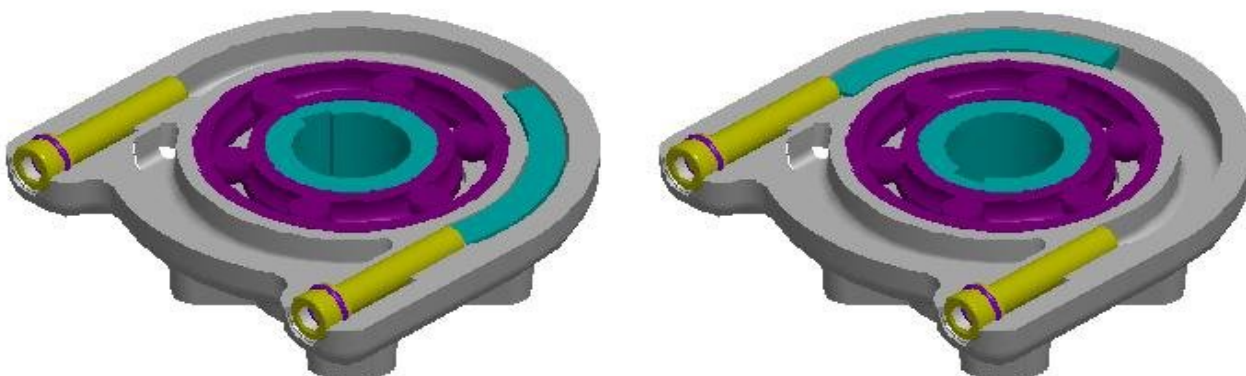
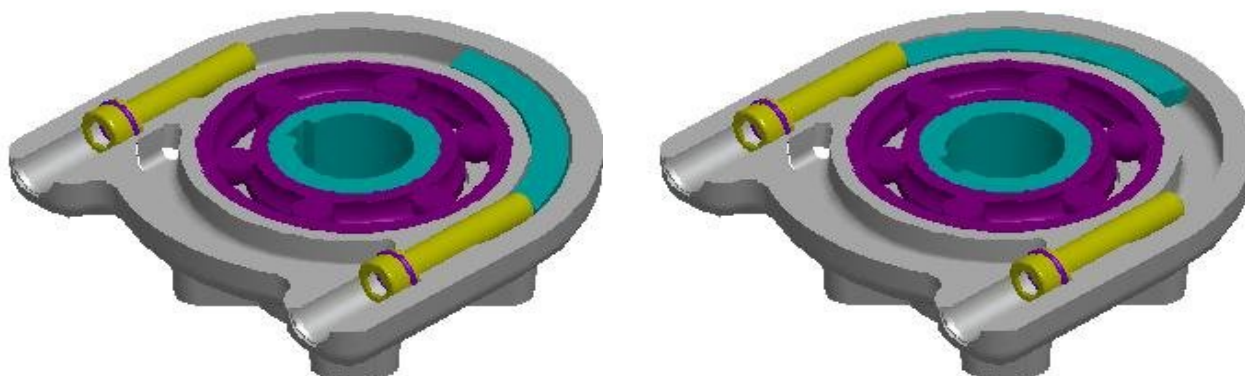

Fig. 13
Fig. 14
- release both backstop screws in such way that their heads shall be on the same level as the opening edge (Fig.13)
It is possible to increase (Fig.13) or decrease (Fig.14) the operating angle by 26° on adjusted EA by means of backstop screws, but you are loosing possibility of the output shaft position tuning. In doing so, the positioning unit must be adjusted to this angle and transmitter must be ejected from angle.